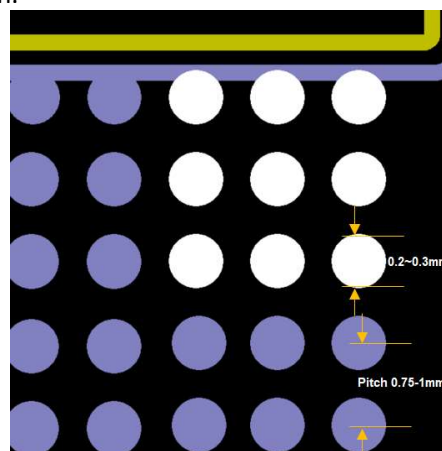

Figure 9-2 PCB Exposed Pad Land Pattern Via Grid
- Maximum thermal and electrical performance is achieved when an array of vias is incorporated in the land pattern at 0.6~1mm grid, as shown in Figure 9-2.